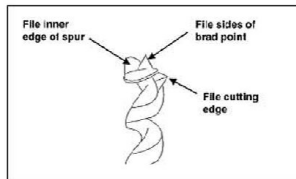

Fig 8
1. Sharpen the bit by using a small, smooth file, following the original shape of the bit. File the inside edge of the spur, the sides of the Brad point, and the cutting edge inwards toward the flute of the bit. See Fig. 8. Do not file the outside edge of the spur as this will affect the diameter of the bit.